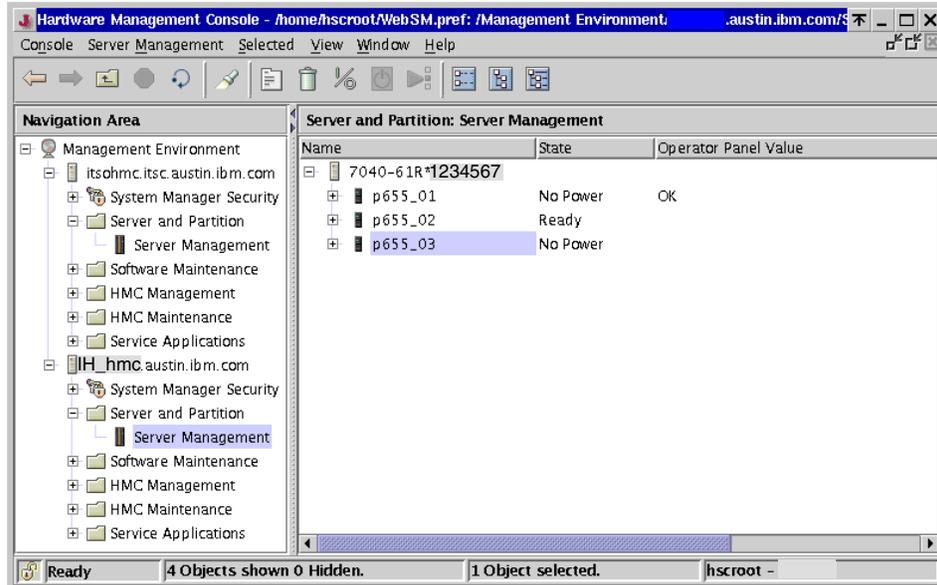

Figure 4-11 Server Management (three pSeries 655 servers)⁶
- ▶ Figure 4-11 on page 142 shows a frame (7040-61R*1234567) in the Content area that contains three managed systems (three pSeries 655 servers).